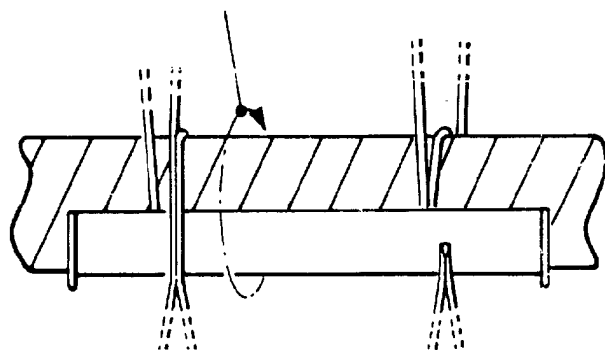
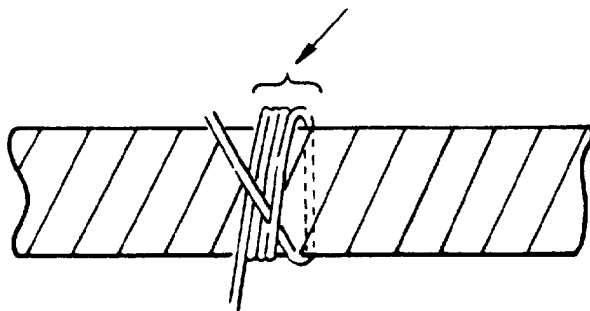

Fig 6
Fig 7
3. Take one end of the lacing tape and turn it around the bundle of cables four times. Be sure it is firm and tight. Be careful that the lacing tape does not go outside of the slit. See Fig 6.
4. After turning the lacing tape around the bundle of cables four times, make a close hitch as shown in Fig 7.
, Fig.6 and Fig.7